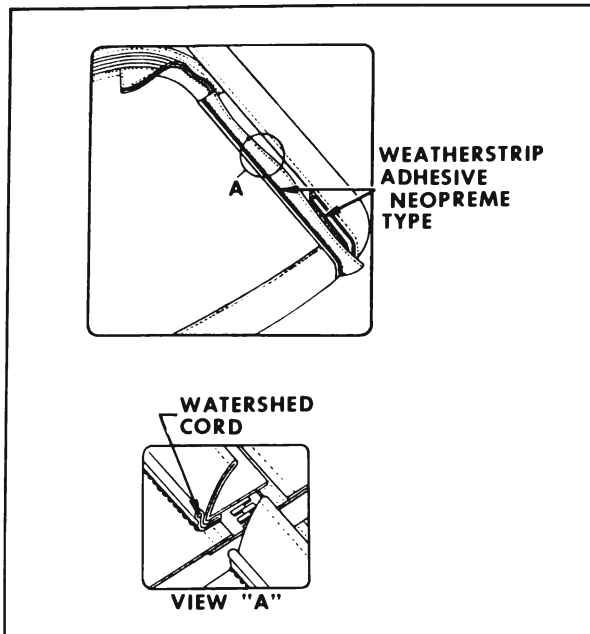

Figure 7-36—Back Curtain Weathershed Cord
**NOTE:** Do not install tacks within 1/2" of back curtain watershed cord. (Figure 7-36 illustrates watershed cord and exterior back curtain sealing.)
**IMPORTANT:** Do not install tacks within  $1/2''$  of back curtain watershed cord (see "A", Figure 7-36).